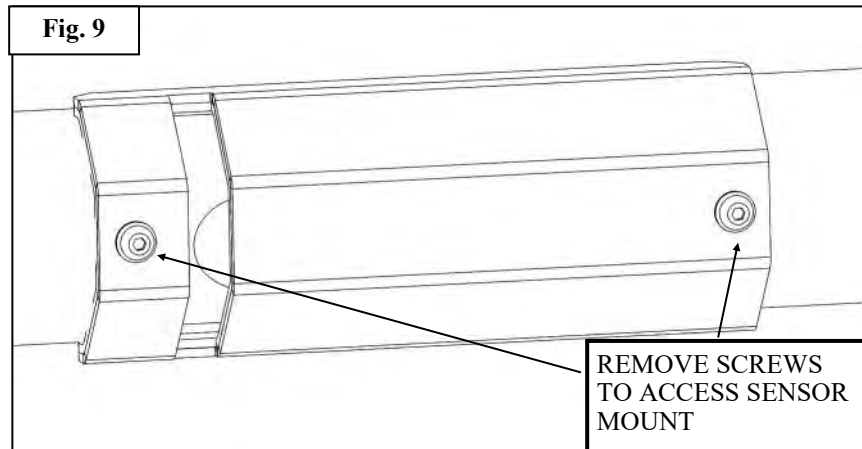

Fig. 9
11. Unbolt the pre-installed tube covers from the grille guard by unscrewing M6 button head bolts. See **Figure 9 & 10**